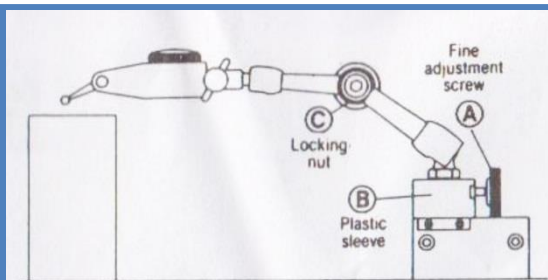

Fig. 1 NOGAFLEX set up for fine adjustment. (Horizontal surface).
3. Bring measuring point to required location, as in Fig. 1. And tighten nut "C".